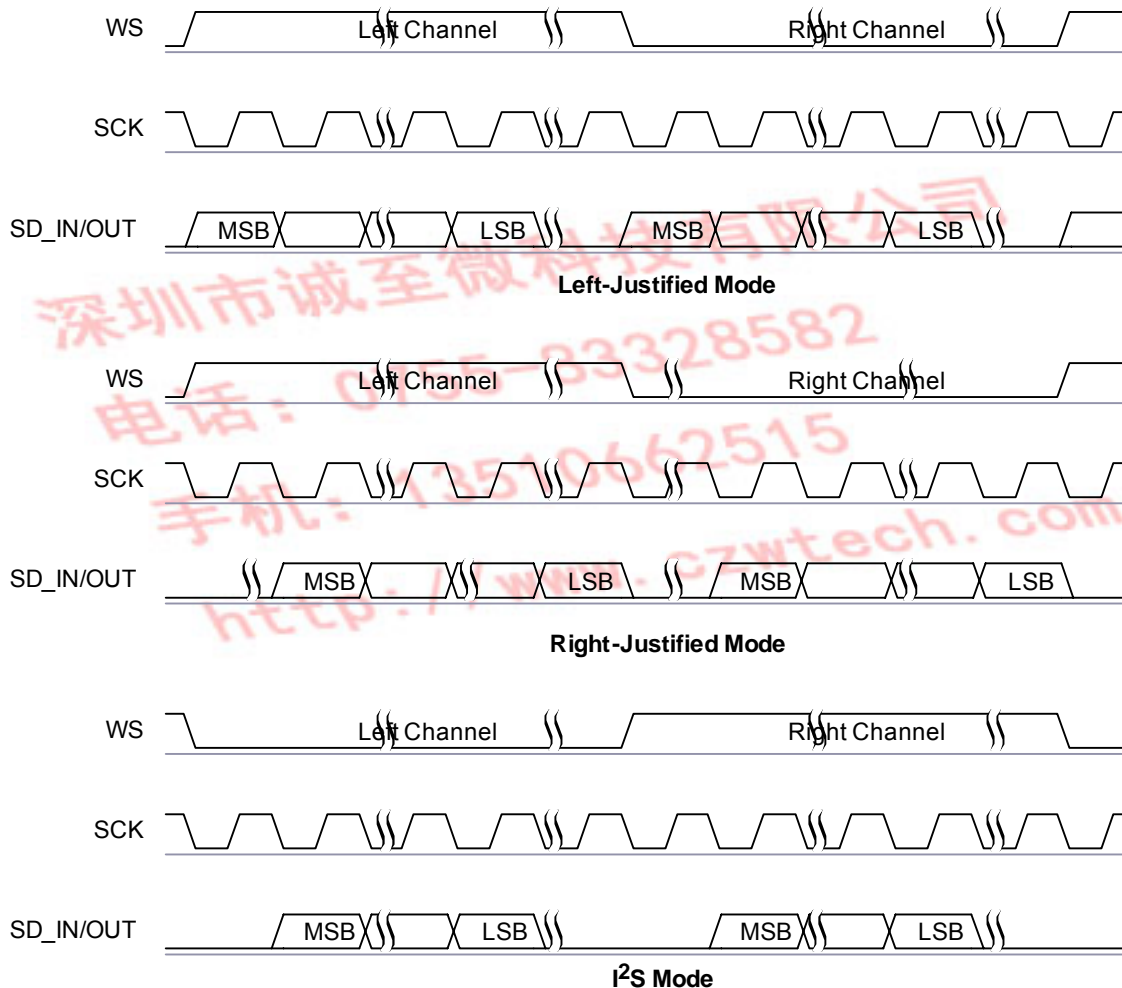

Figure 8.22: Digital Audio Interface Modes
The digital audio interface supports the industry standard formats for I²S, left-justified (LJ) or right-justified(RJ)⁽¹⁾. The interface shares the same pins as the PCM interface as shown in Table 6.1 and the timing diagram is shown in Figure 8.22.